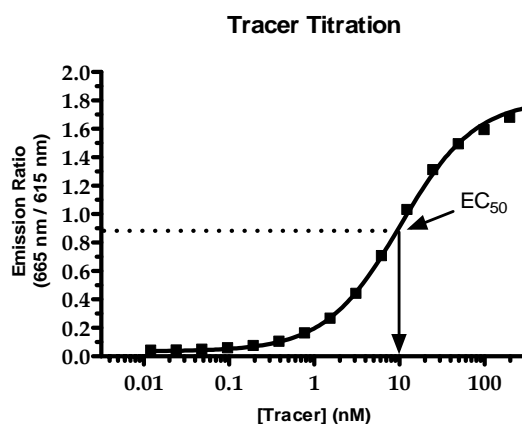

Figure 2. Titration of Alexa Fluor® 647 ADP Tracer against 2 nM Eu-anti-ADP antibody in the presence of 10 μ M ATP.
9. Plot the resulting TR-FRET emission ratio against the concentration of Alexa Fluor® 647 ADP Tracer, as shown in Figure 2. The final concentration of ADP tracer in the first well was 200 nM and a 2-fold serial dilution was performed. Fit the data to a sigmoidal dose-response curve with a variable slope and calculate the EC₅₀ concentration from the curve. This is the concentration of tracer that will be used in the detection solution for the following optimization steps and inhibition titrations.